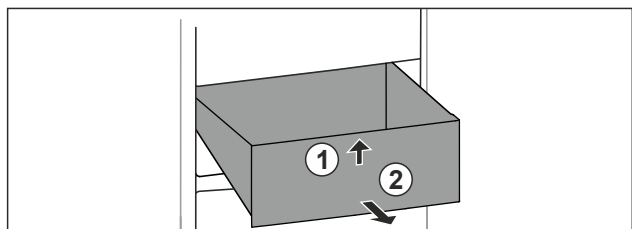

Fig. 26
- ▶ Lift up drawer at the front. Fig. 26 (1)
- ▶ Remove drawer to the front. Fig. 26 (2)